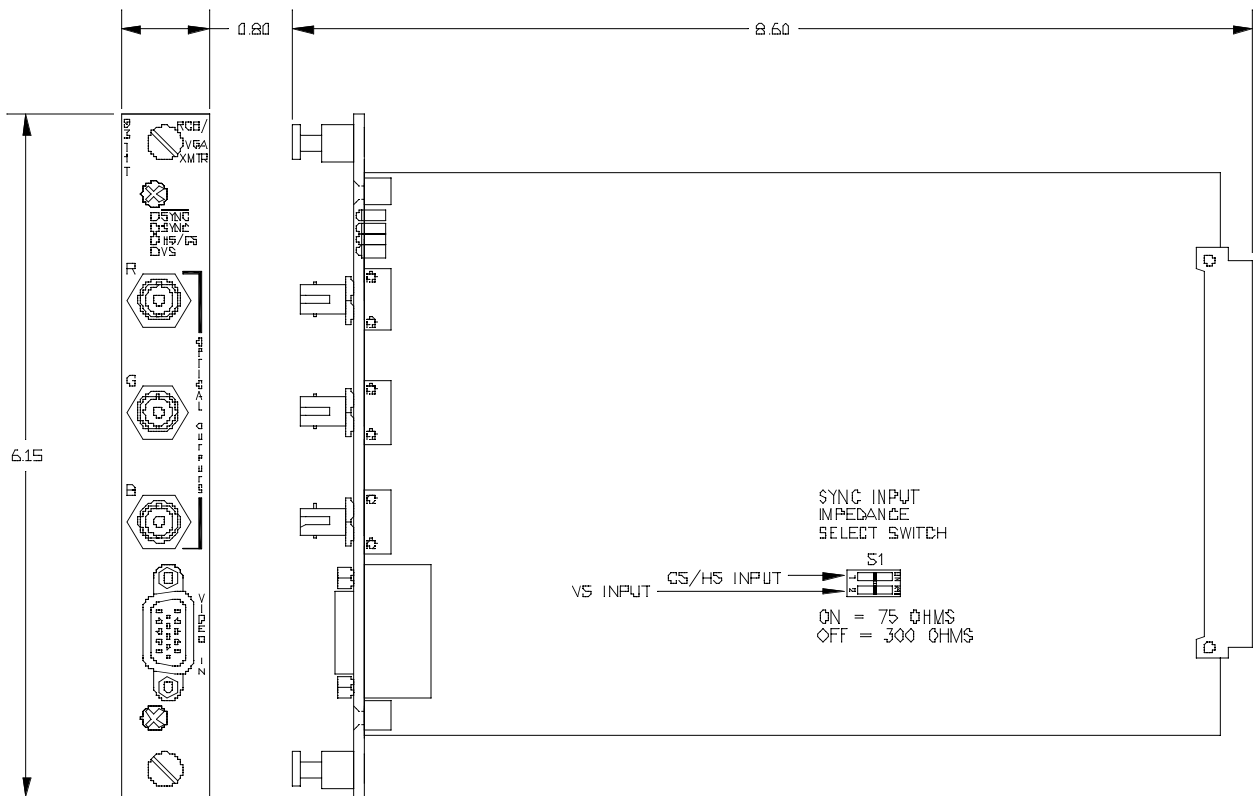

Figure 1 – 9311T DIMENSIONS AND SWITCH LOCATIONS (S and L Versions Shown)
See Figures 1 and 2
On the transmitter, a dipswitch is used to select the input impedance of the external sync inputs, HS/CS and VS. See FIGURE 1 for the location of the switch on the circuit card. Position one (1) is for the HS/CS input. Position two (2) is for the VS input. Set the switch OFF for 300 ohms and ON for 75 ohms. Use 300 ohms as the default, 75 ohms if required usually for proper termination of long cables.